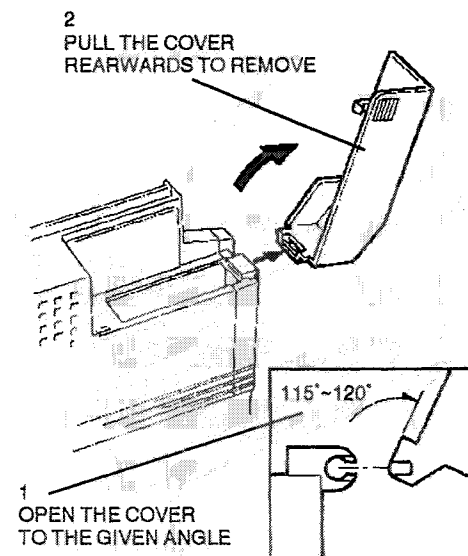

Figure 1. Font cartridge cover removal
1. (Figure 1) Remove the font cartridge cover.